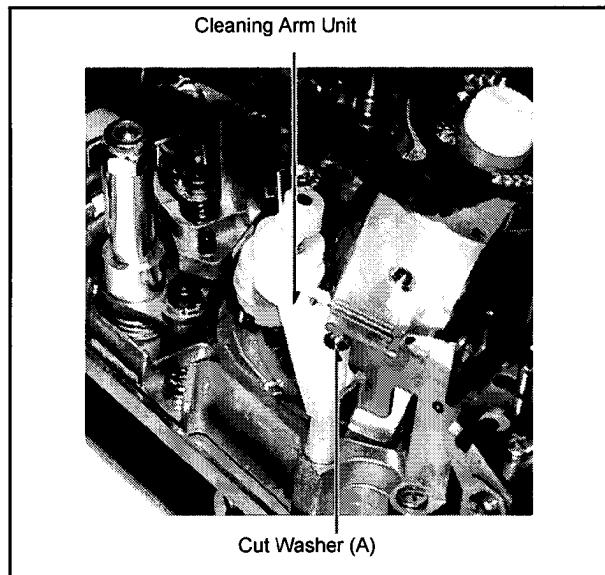

Fig. 4-2-1
1. Remove the Cut Washer (A) as shown in Fig. 4-2-1 and the spring hooking the Cleaning Arm Unit and then, remove the Cleaning Arm Unit.